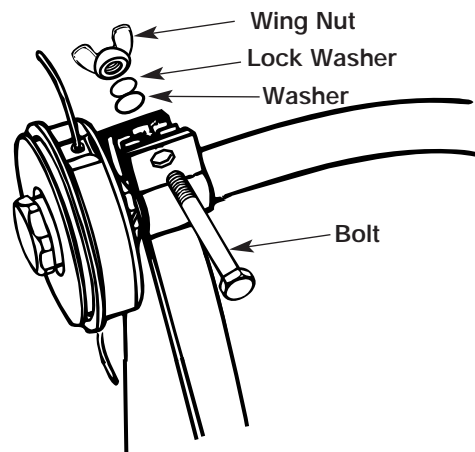

Fig. 3
2. Insert the bolt through the shield, bracket, washer and lock washer and tighten with the wing nut (Fig. 3).